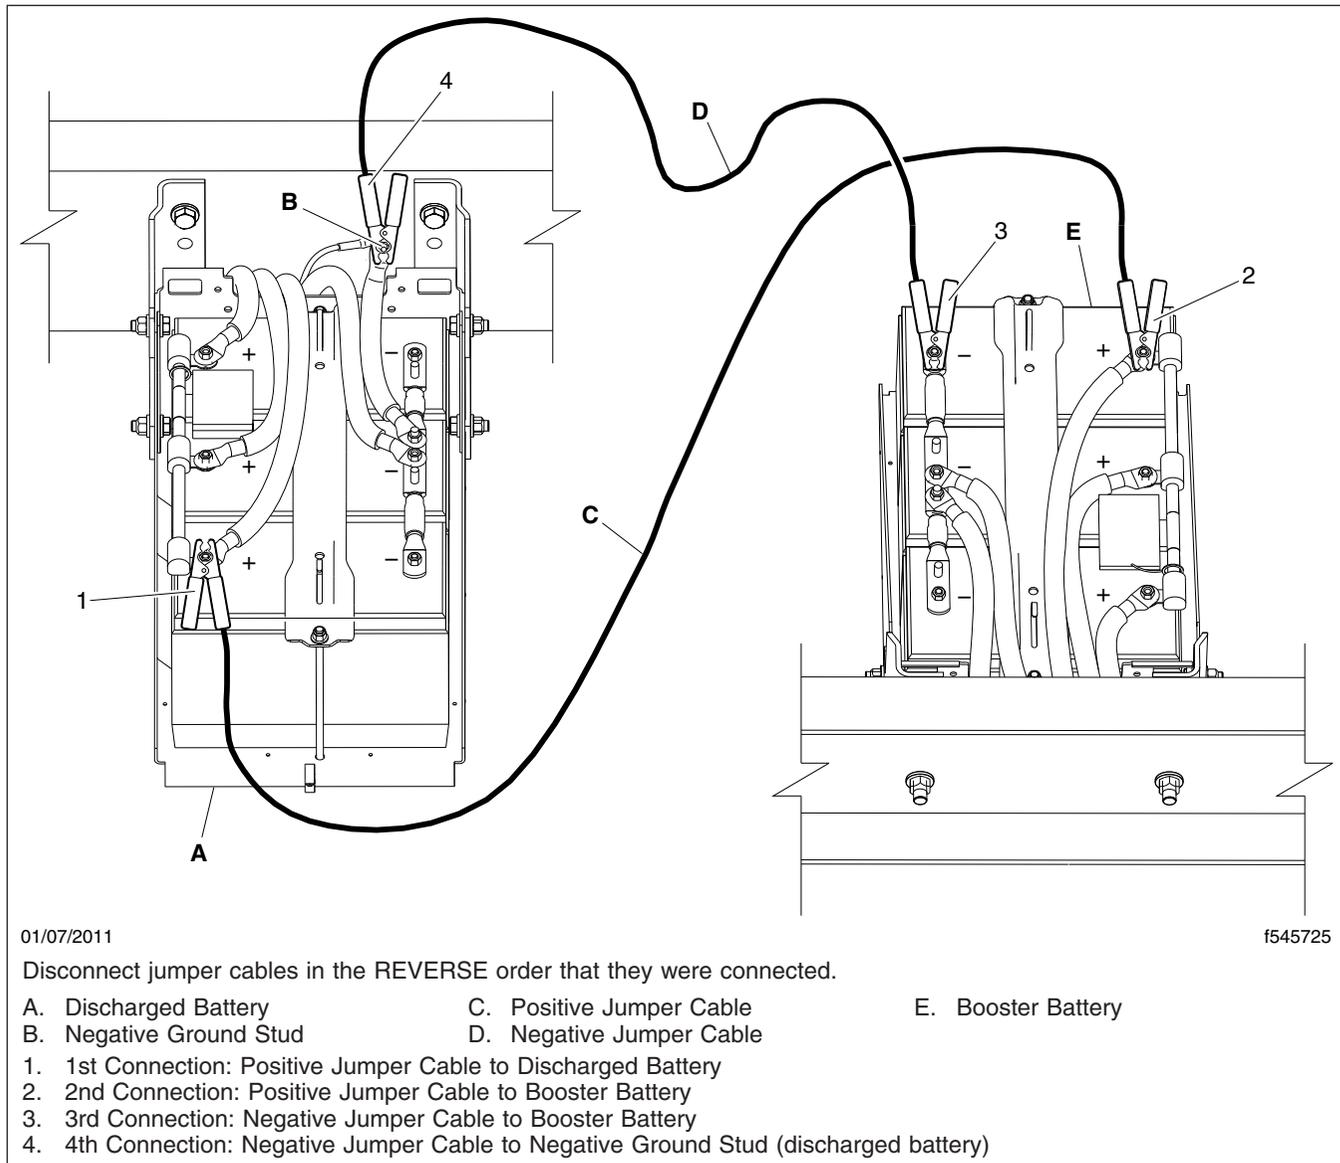

Fig. 14.4, Jumper Connections (three battery system shown for clarity)
3. Connect the positive (+) jumper cable to the positive terminal on the discharged battery. See Fig. 14.4.